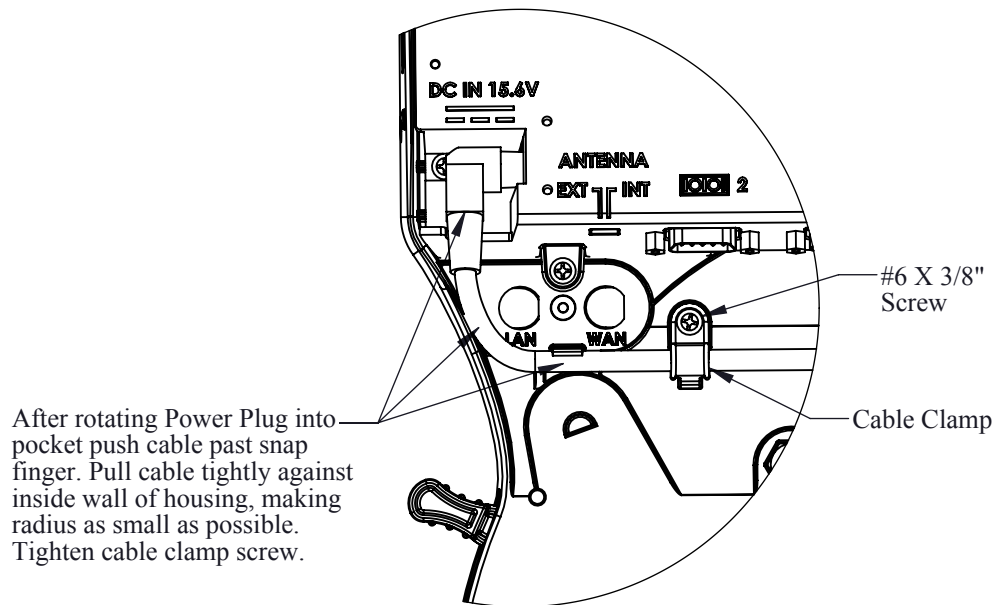

Fig. 1
6. Insert cable between snap finger and frame and secure with Cable Clamp and #6 X 3/8" screw. See Fig. 1 for correct position of cable to maximize space around RF connector, if dock is so equipped.
- Connect lead wires to the Docking Station (recommend using quick disconnects as shown in Figure 1) Caution: *The disconnect must be easily accessible. When assembling the quick disconnects, use only Panduit crimp tools CT-100, CT-600, CT-1525, CT-1550 or CT-1551.*